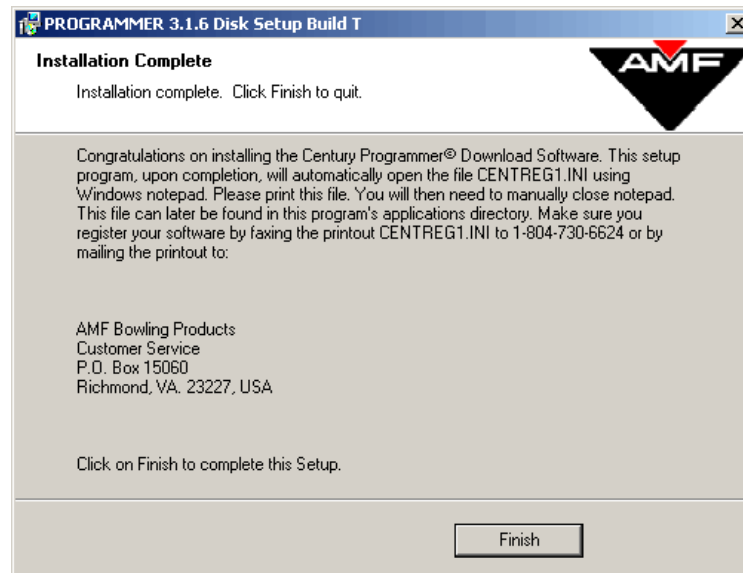

Figure 1-18
17. Century Programmer™ is now installed on your computer. The screen in **Figure 1-18** shows an address and phone number that are used for software registration. Once you click the <**Finish**> button, a notepad will open with information that needs to be sent to AMF. You may choose to send it either by fax or by mail.